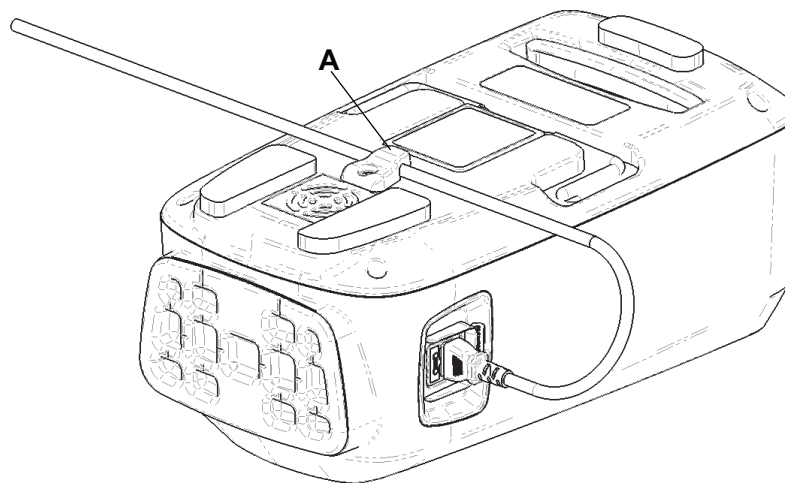

Figure 3 – Cord retention flex grip
3. Insert the power cord under the power cord retention flex grip (A) (Figure 3).